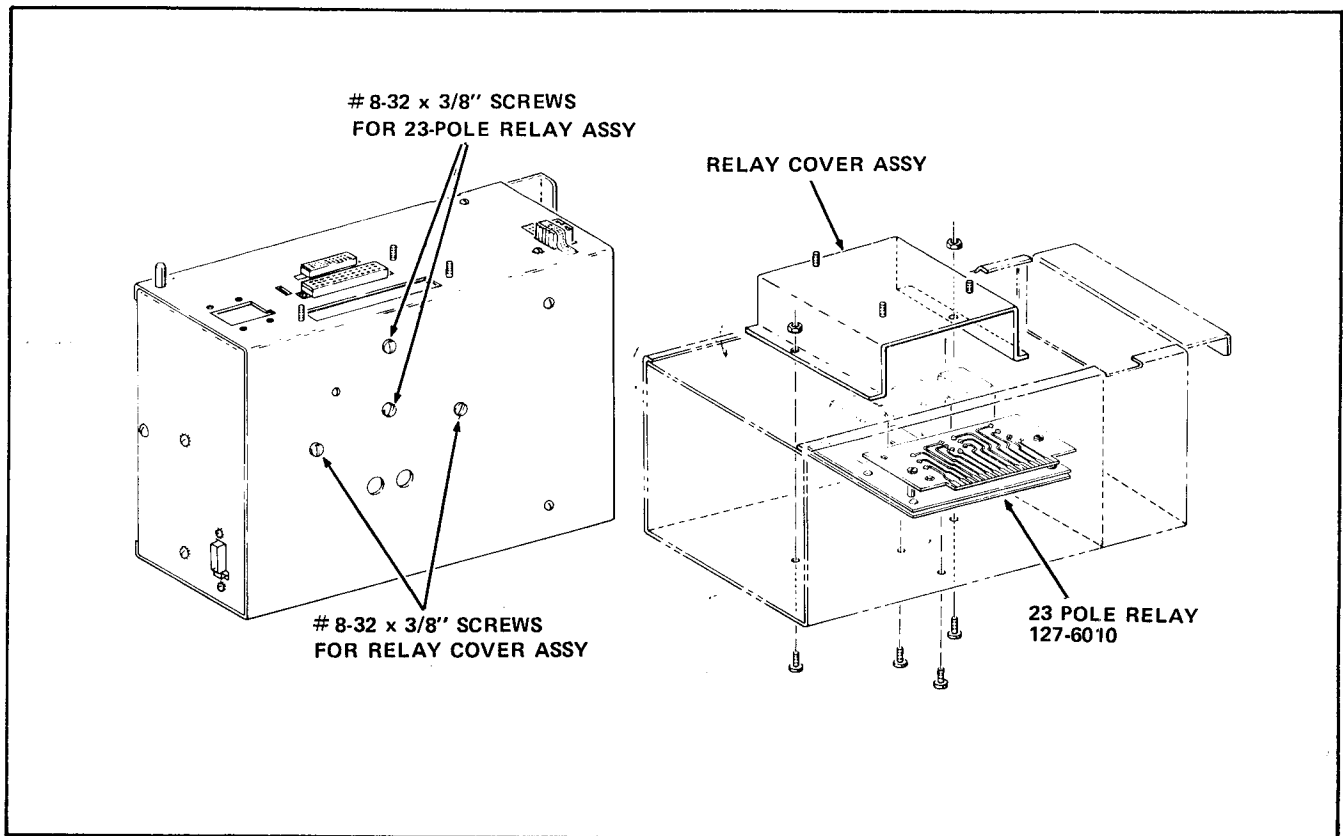

FIGURE 6
A. When a 23-Pole Relay Assembly requires replacement, one of two possible conditions can exist: The Control Box may be equipped with (1) a Relay Unit Assembly and Relay Unit Circuit Board Assembly, or (2) with a Relay Module Assembly.
B. Lay the Control Box on its side, the side which has no Connectors in it. See Figure 6.